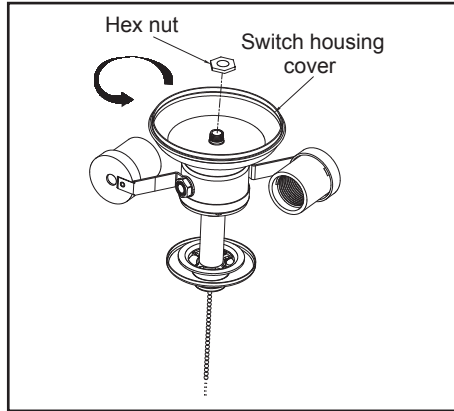

Figure 17
1. In order to use the fan without the light kit, remove the switch housing from the top of light kit fitter assembly by removing the center hex nut inside the switch housing, and then thread the switch housing cover off the threaded nipple on the top of the light kit fitter assembly (figure 17).